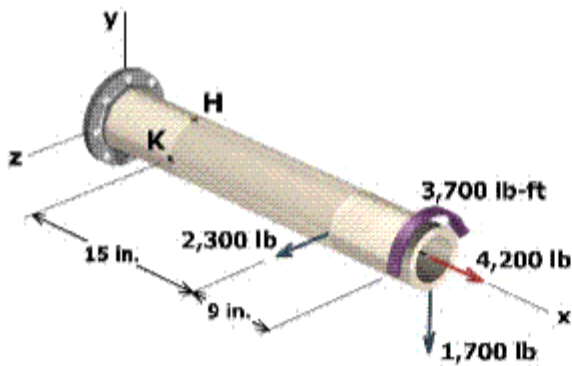

Fig. P15-45
15.45 A steel pipe with an outside diameter of 4.500 in. and an inside diameter of 4.026 in. supports the loadings shown in Fig. P15-45.